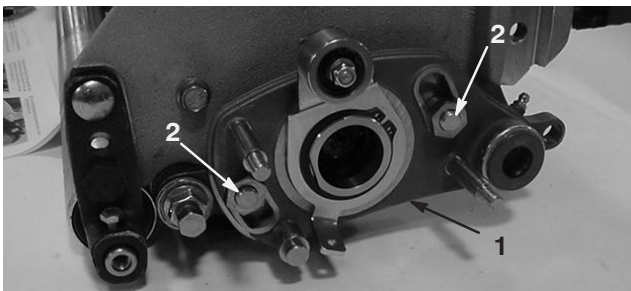

Figure 40
8. Remove the (2) locknuts securing the groomer drive assembly to the side plate adapters (Fig. 40).